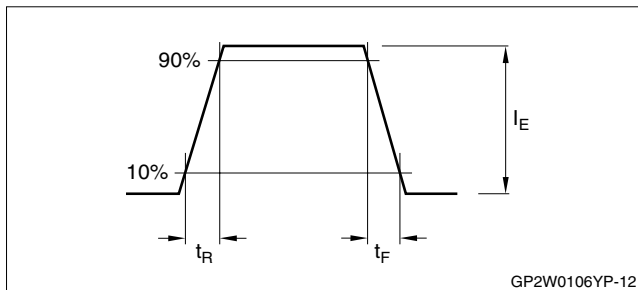

Figure 12. Output Waveform Specification (Emitter Side)
- BR = 115.2 kbps,  $\phi \leq 15^{\circ}$ ,  $T_{OPR} = 25^{\circ}\text{C}$ .  $V_{DD} = V_{LEDA} = 3.3\text{ V}$ .  $V_{IHTXD} = 2.8\text{ V}$ . See Figures 12, 13, and 14.
- BR = 115.2 kbps. See Figures 12, 13, and 14.